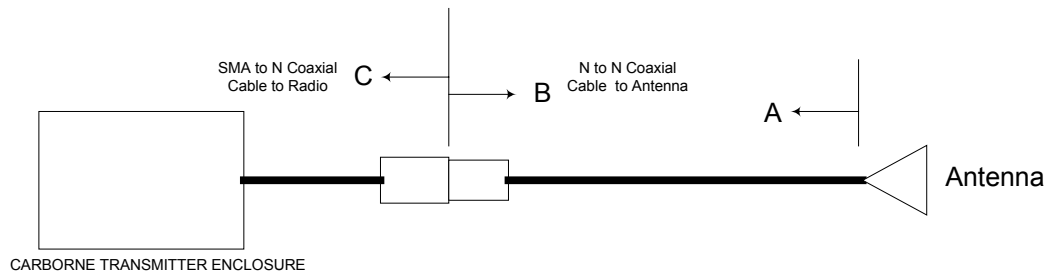

Figure 6-1 - Carborne Power Measurements
- 1. RF coaxial cable tests - this test will be performed using the Anritsu Site Master 251C Antenna & Cable Analyzer. The Anritsu 251C will be used to measure power output at point "A". This reading will be recorded in the CRE Power Output column of the Test Record Form in Annex TR and, together with antenna gain, will be used to determine compliance with the RF output power requirement. The Anritsu 251C will also be used to measure reflected power in the cable system between the lightning arrestor to the antenna ("B" to "C"). This reading will be recorded in the Cable Reflected Power Loss column of the Test Record Form in Annex TR. These tests will be as per Figure 6.1 below: